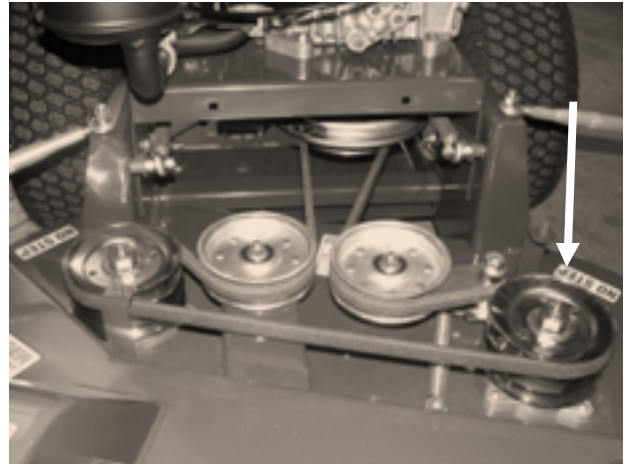

Figure 62
2. Start from either side and roll the belt off pulleys **Figure 62**.